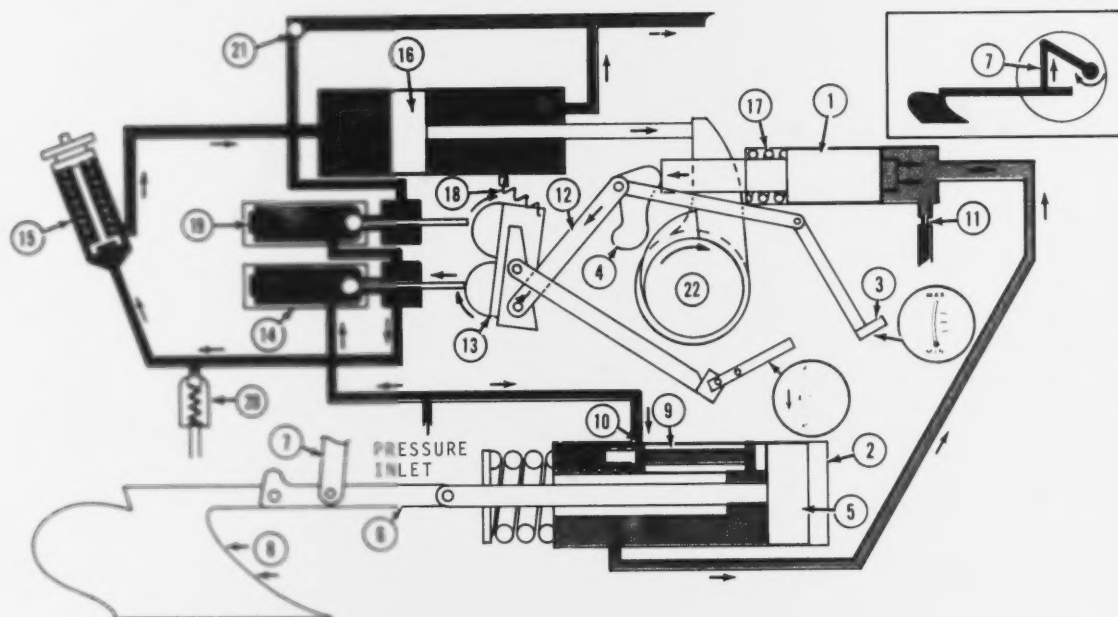

Fig. 6—Hydraulic Load-Sensing Rockshaft
The hydraulic load sensing system (Fig. 6) consists of a load control valve (1) and a sensing cylinder (2). The load control selector (3) is in a position at the top of the cam follower (4) to allow maximum load sensing. The rod end of the sensing cylinder piston (5) is attached to one draft arm (6). The two draft arms are connected by a shaft. The draft links (7) are attached to the draft arms.